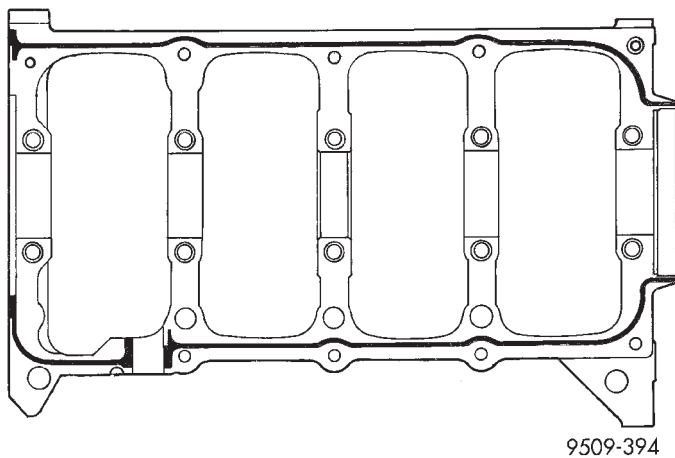

Fig. 83 Main Bearing Caps/Bedplate Sealing
(4) Apply 1.5 to 2.0 mm (0.059 to 0.078 in.) bead of Mopar® Torque Cure Gasket Maker to cylinder block as shown in (Fig. 83).